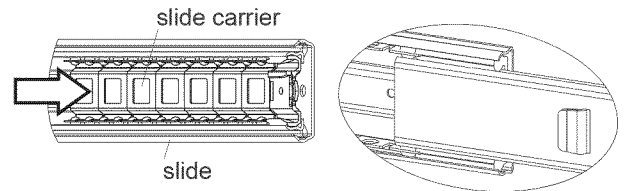

Figure 13
**Ball bearing slide** - Pull slides and slide carrier out to fully extended position (See Figure 13). Hold the slide on the cabinet while aligning it with the slide on drawer. Slightly insert one side and repeat for the other side. Slowly push drawer to its fully closed position to engage slide. Open drawer and reclose to ensure proper operation.